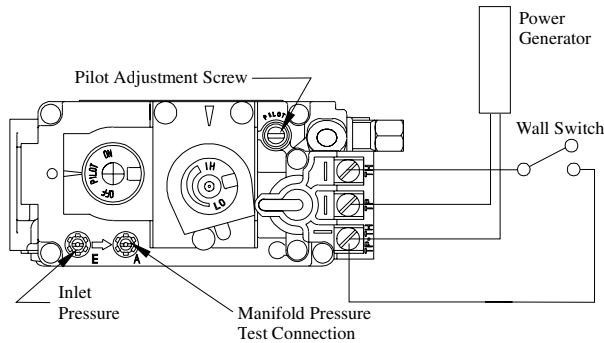

Figure 13. Sit Nova 820 gas valve.
- Have the fireplace installation inspected yearly, including a visual check of the vent system, the burner and the pilot flame. For your convenience a 1/8" manifold pressure tap is supplied on the gas valve for a test gauge connection. See Figure 13.
1. Locate Pilot Adjustment Screw. (See figure 13.)
Pilot won't ignite	Disconnect remote wires and try to light pilot. If pilot now works, remote connections are faulty. Check wiring diagram figure 13.
Main burner will not light	1. Check wiring (see figure 13). 2. Check wall switch for proper connection.